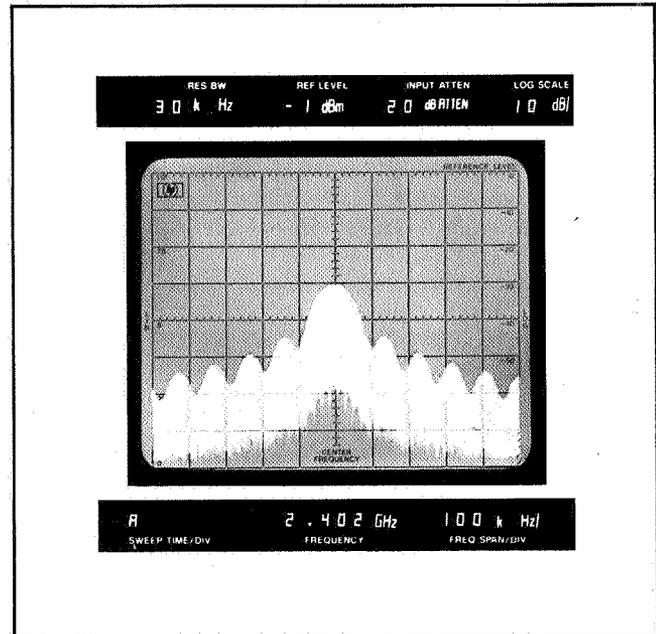
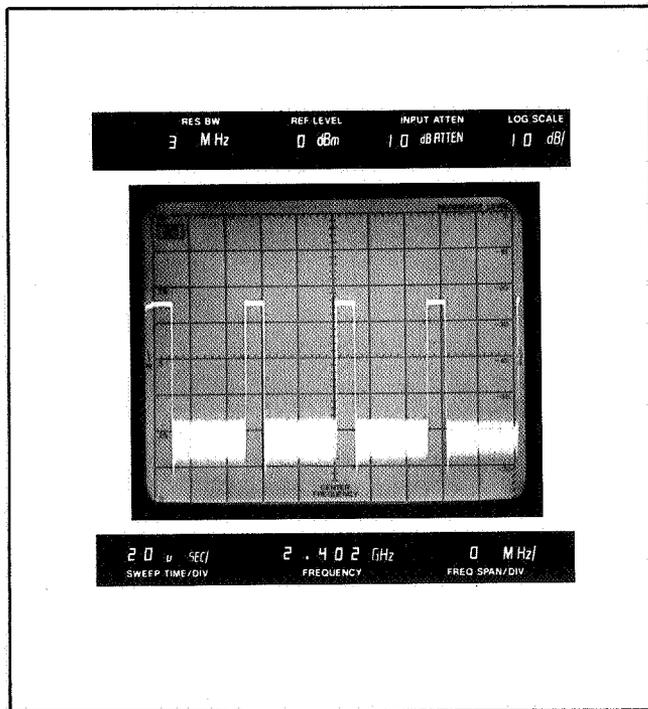

Figure 33. Pulse spectrum
Figure 34. Demodulated pulsed RF signal in ZERO SPAN
For a duty cycle of 0.05, $\alpha_L = -26$ dB. Hence the peak pulse power in Figure 33 is -22 dBm (-48 dBm +26 dB).
An alternate method of measuring a pulsed RF signal is in the *pulse* spectrum mode. In a *pulse* spectrum, the individual spectral lines are not resolved. If the RESOLUTION BW of the analyzer is greater than $1.7 \times \text{PRF}$, then the pulsed RF signal is being viewed in the *pulse* spectrum. Using the pulse spectrum enables a wider resolution bandwidth to be used. Two benefits result from this: first, the signal-noise ratio is increased because the pulse amplitude increases linearly with the resolution bandwidth (BW) whereas random noise increases only proportionally to the $\sqrt{\text{BW}}$. Hence the signal-noise ratio of the analyzer is effectively increased. Secondly, faster sweep times can be used because of the wider resolution bandwidths. The HP 8565A has a 3 MHz RESOLUTION BW which enables it to effectively display pulsed RF signals in the pulse spectrum. The 3 MHz bandwidth, along with fast sweep times, also enables narrow pulse widths to be measured in the time domain. Figure 33 illustrates a signal in the pulse spectrum. The same signal is demodulated with the analyzer in Figure 34.